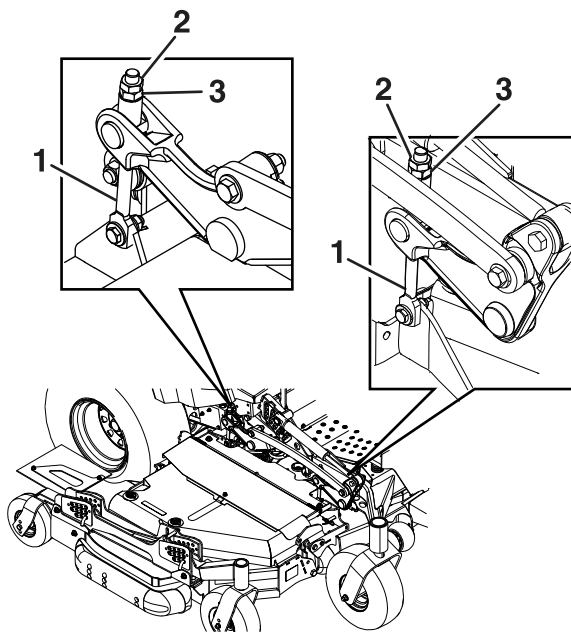

Figure 73
Loosen the jam nuts on the top of each deck adjuster. Fine-tune the adjuster on the front deck-lift assembly by turning it to get the correct height for the left and right, front blade tips on the center deck (Figure 73).
5. If the 4 deck adjusters (Figure 73) do not have enough adjustment to achieve the accurate height of cut with the desired rake, you can utilize the single-point adjustment to gain more adjustment.
6. To adjust the single-point system, first loosen the front and rear height-of-cut plate mounting bolts (Figure 73)